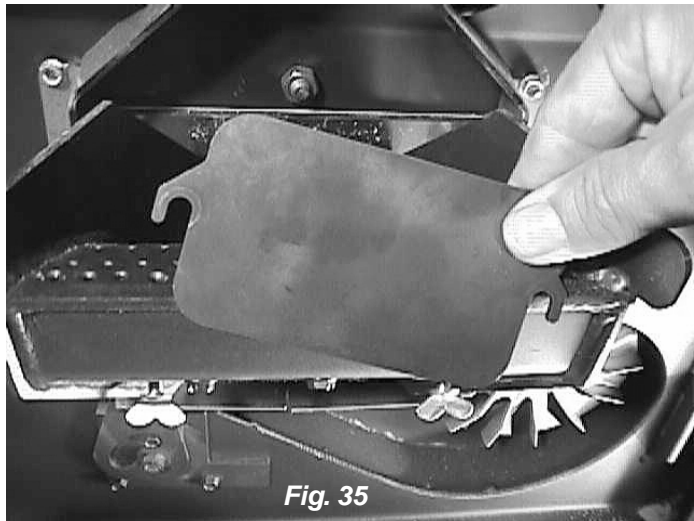

Fig. 35
3. Lift off the clean-out cover (Fig.35) to open the bottom clean-out chamber. (Fig.36)